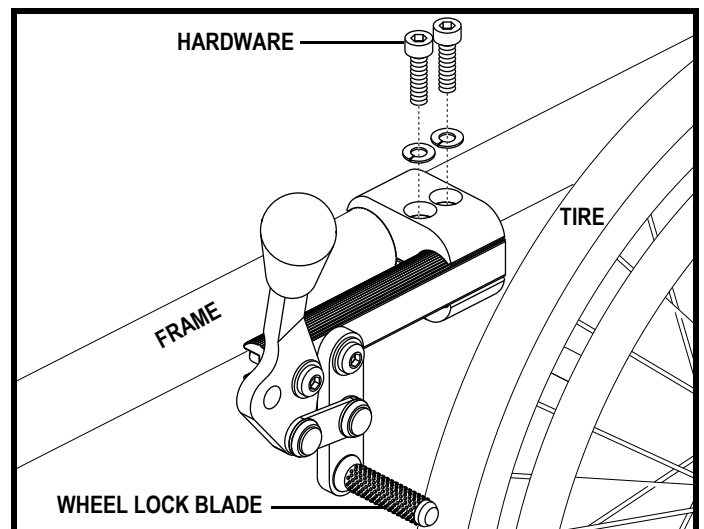

Figure 39. Wheel Lock Adjustment
2. Loosen the hardware that fastens the wheel lock to the frame. See figure 39.